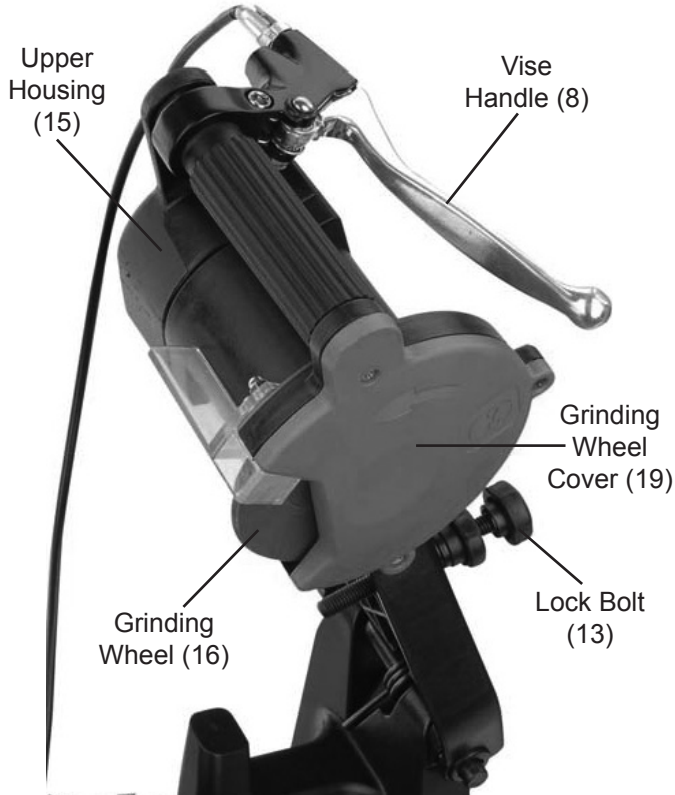

Figure 2
1. Raise the Upper Housing (15) and lock it in the up position by tightening the Lock Bolt (13). See Figure 2, below.
2. Remove the three Screws (20) holding the Grinding Wheel Cover (19) in place. Set Wheel Cover aside.